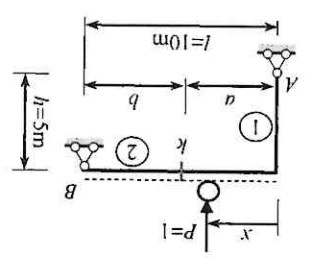

Fig. P10.4
10.4. Design diagram of a frame is presented in Fig. P10.4. The relative flexural stiffness are shown in the circle; $a = b = 0.5l$.